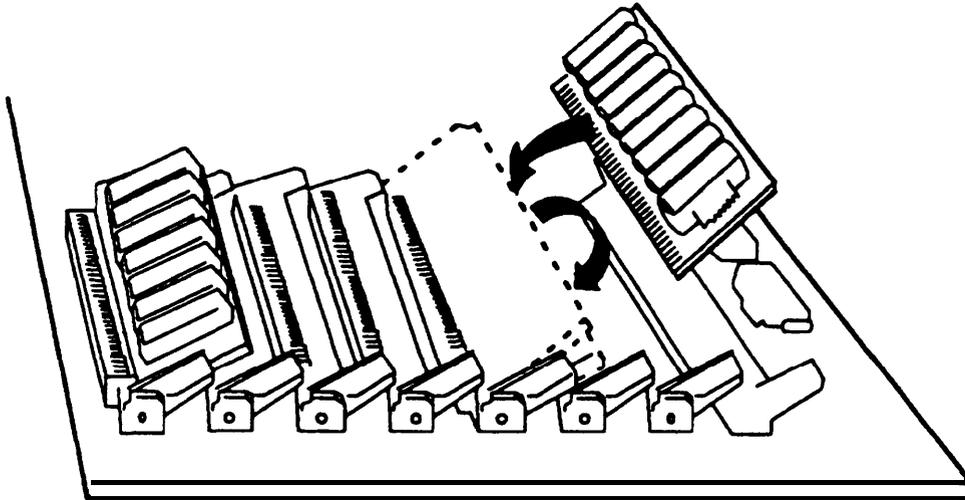

Figure 2-13. Installing SIMMs on the Memory Expansion Board
3. Referring to Figure 2-13, slide each module carefully into the socket with the circuit packs facing up. When the module is seated, press down gently until it snaps into place. Compare it with other modules already in place to ensure that it has been inserted correctly.